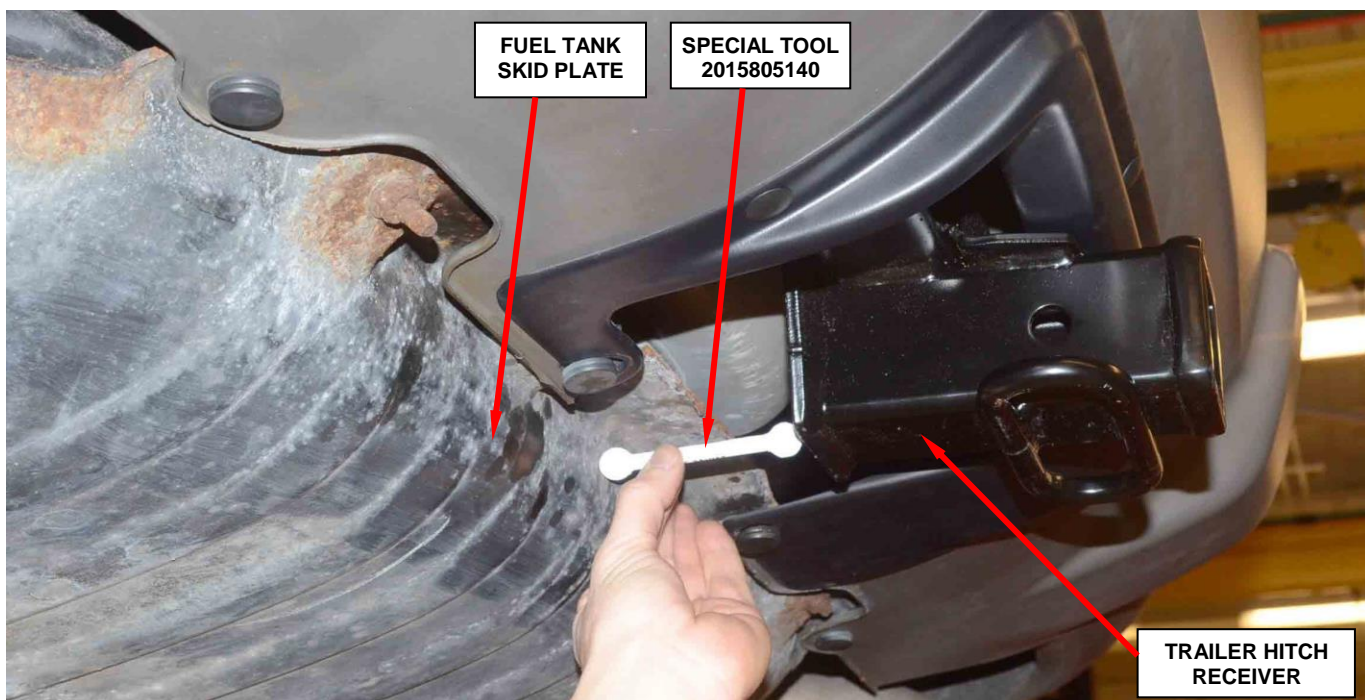

Figure 2 – Measure the Clearance Between the Trailer Hitch Receiver and the Fuel Tank Skid Plate
- If the tool fits between the trailer hitch receiver and the skid plate, no further action is required (Figure 2). Lower the vehicle from the hoist and return the vehicle to the customer.